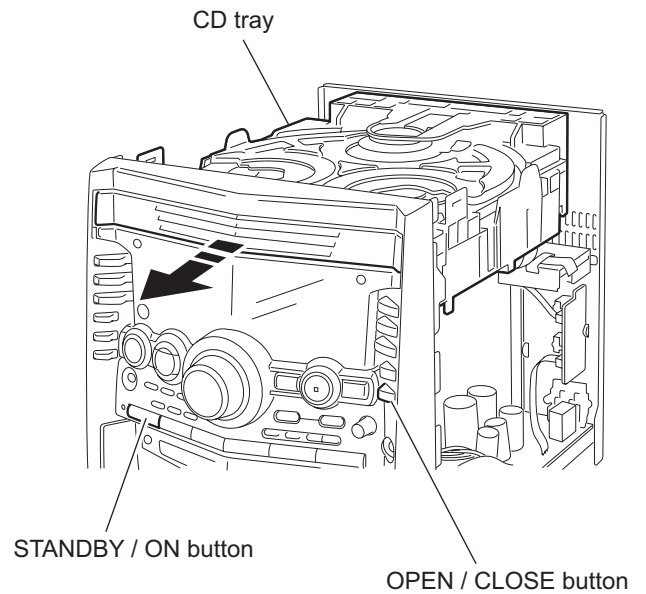

Fig.4
3.1.2 Removing the CD fitting (See Fig.4~6)